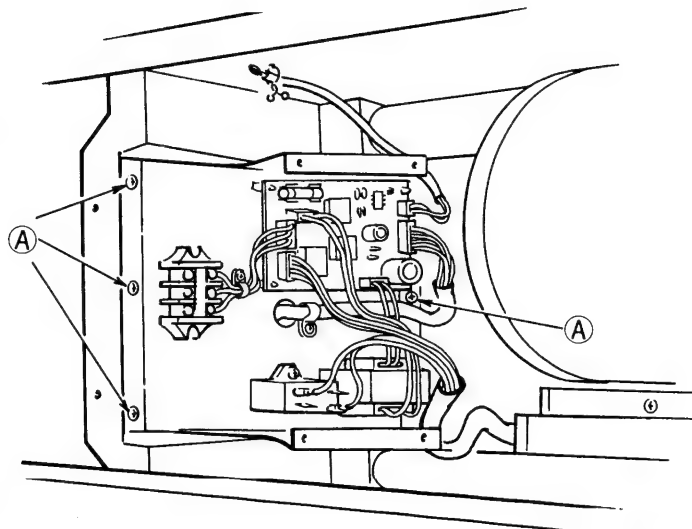

Fig.4
- ⑤ The electrical components can be checked in this condition.
- ⑥ For removal of the electrical component box, remove the four screws shown by the arrows. (A) Fig.4.